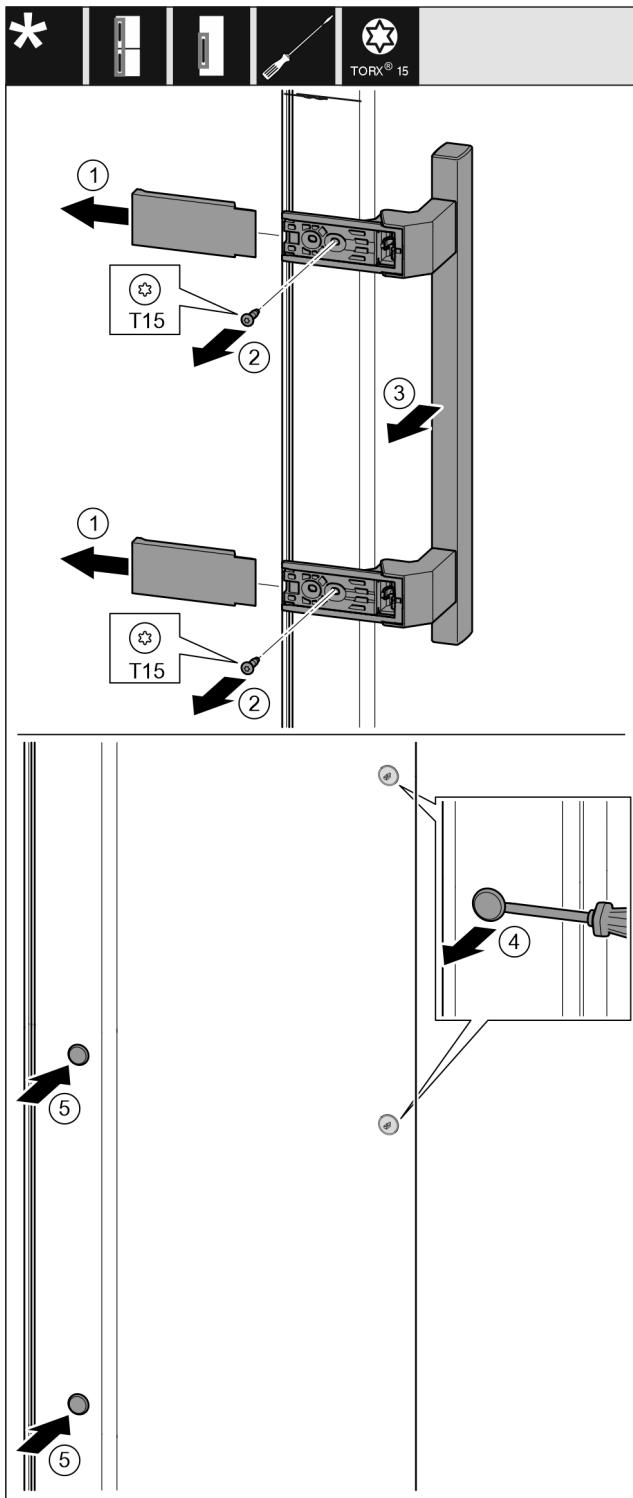

Fig. 14
- ▶ Pull off the cover. Fig. 14 (1)
- ▶ Remove the screws with a T15 screwdriver. Fig. 14 (2)
- ▶ Take off the handle. Fig. 14 (3)
- ▶ Carefully lift up the side plugs with a slotted screwdriver and pull them out. Fig. 14 (4)
- ▶ Insert the plugs again on the other side. Fig. 14 (5)